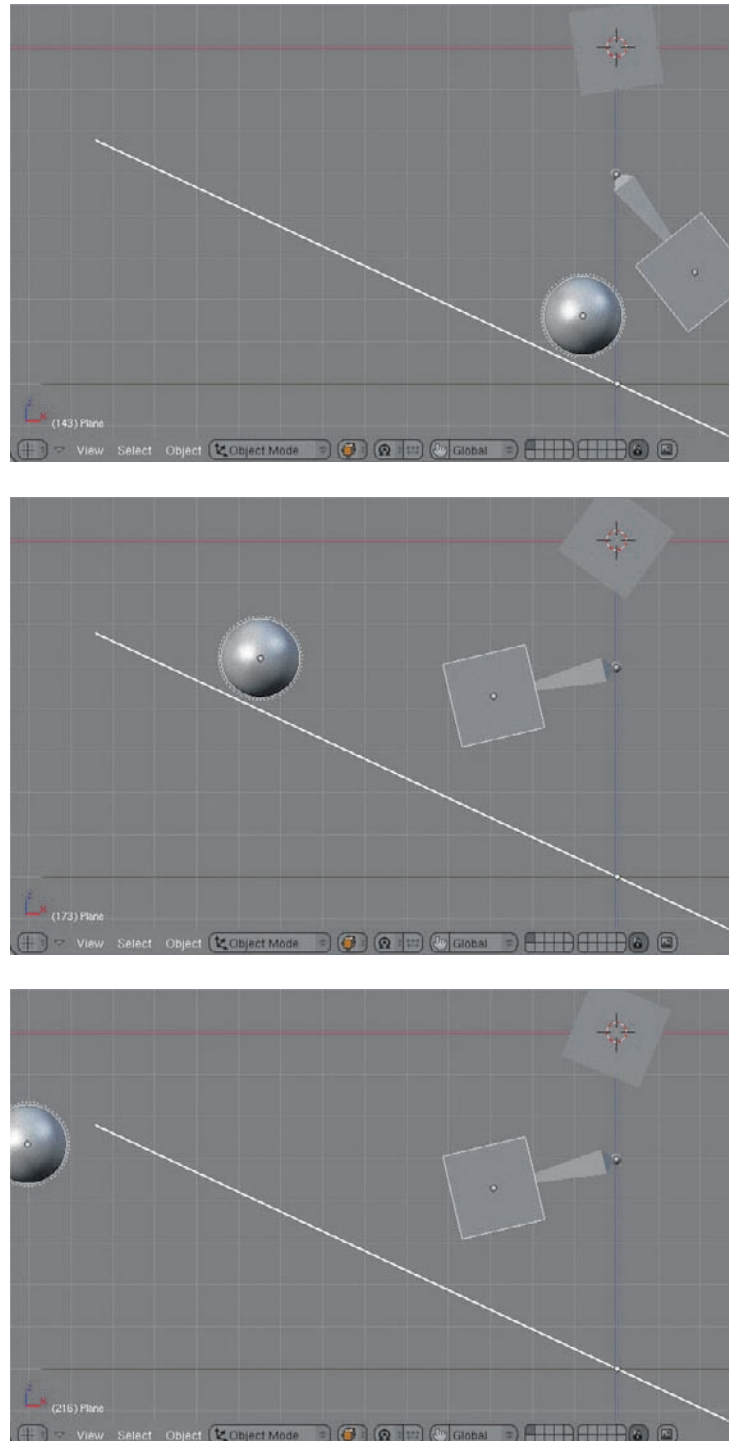

Figure 6.36 The sphere kicked off the plane
8. Press Ctrl+Alt+Shift+P again, and run the animation with Alt+A again. The first part of the simulation will be the same, but instead of coming to rest, the sphere will be kicked off the plane as in Figure 6.36. Doing this enables you to skip entering the BGE and adjusting the frame rate with scripts.